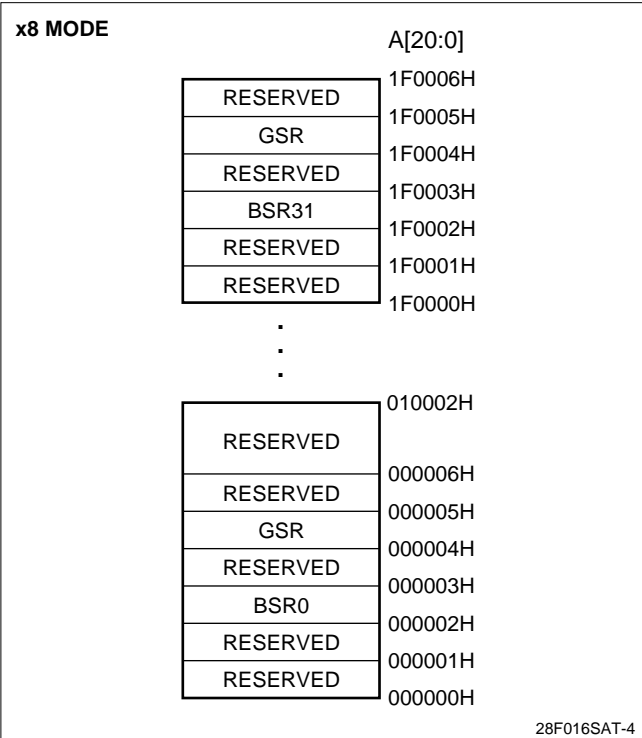

Figure 4. Extended Status Register Memory Map (Byte-Wide Mode)
The GSR and BSR memory maps for Byte-Wide and Word-Wide modes are shown in Figures 4 and 5.
1. RA can be the GSR address or any BSR address. See Figure 4 and 5 for Extended Status Register Memory Maps.